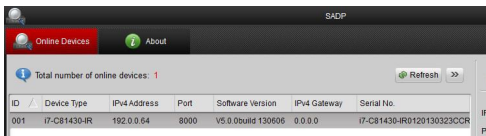

Figure 3-3 Select a device
- 1). Select the device to be modified in the device list as shown in Figure 3-3. The network parameters of the device will be displayed in the Modify Network Parameters panel on the right side as shown in Figure 3-4.